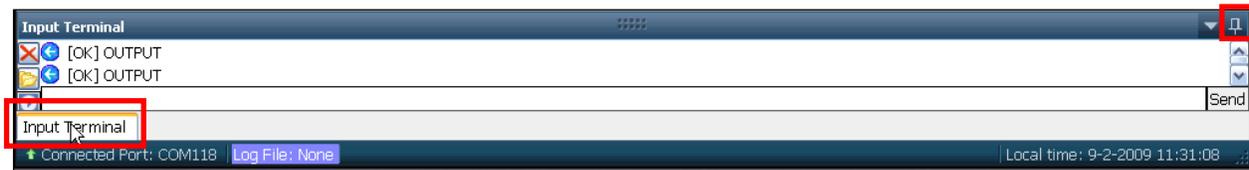

Figure 7: Cursor on Tab Opens Hidden Window
- Roll over the tab in the lower left corner of the GUI to open the hidden window (see Figure 7).